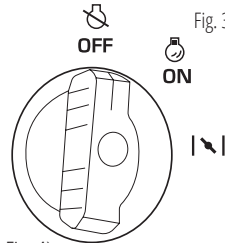

Fig. 3
4. Set the 3-in-1 switch to "OFF" (Fig. 3).